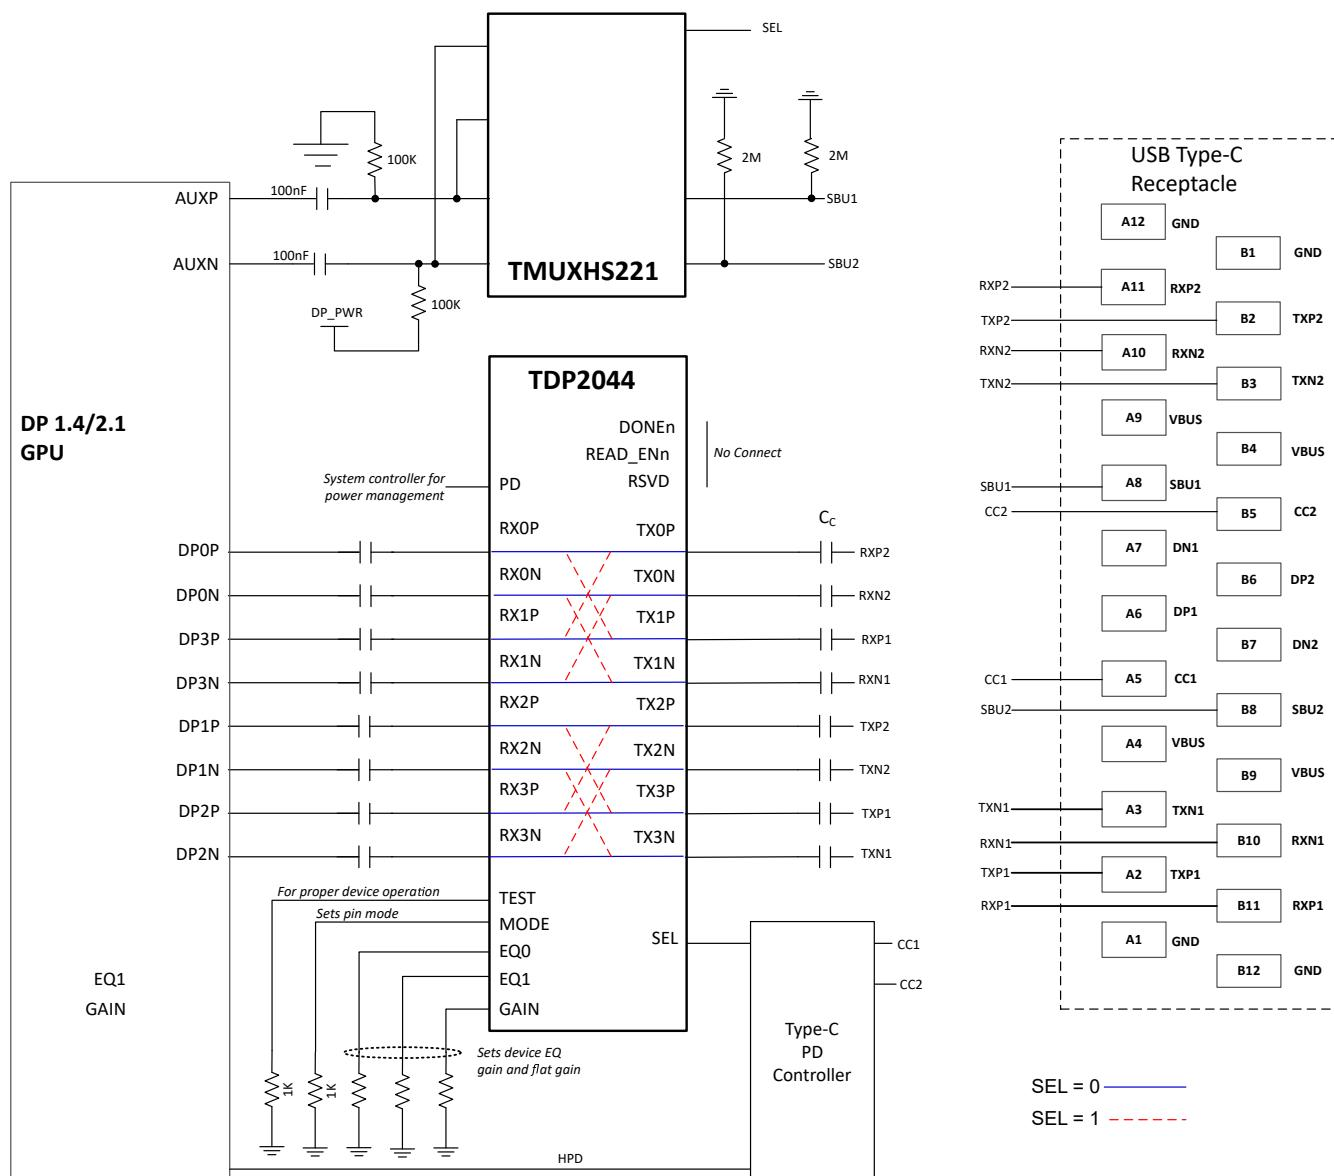

Figure 7-2. Simplified Schematic for USB-C Alternate Mode Source Application
The TDP2044 provides signal conditioning for four DP mainlink channels along with 4:4 cross-point (channel re-orientation) function. The device is a linear re-driver which is agnostic to DP link training. The DP link training negotiation between a display source and sink stays effective through the device. The re-driver becomes part of the electrical channel along with passive traces, cables, and other channel elements, resulting in optimum source and sink parameters for best electrical link. Figure 7-2 shows a simplified schematic for DisplayPort application using TDP2044 to implement USB Type-C DP alternate mode in a source application. A USB power delivery (PD) device controls the cross-point mux polarity signal SEL according to USB Type-C cable plug position.
DisplayPort side-band signals AUXp,n and HPD are bypassed. An external mux such as TMUXHS221 can provide flipping functions for SBU signals as illustrated in Figure 7-2. An inverted HPD signal can be used to control the device standby operation using the PD pin; however appropriate filtering out of HPD interrupt signals must be provisioned.